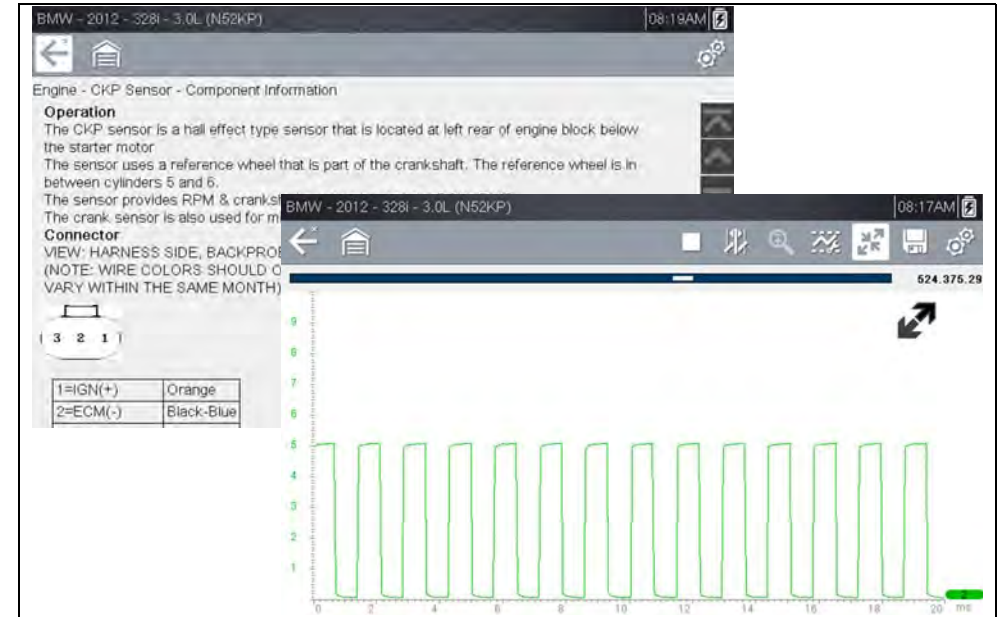

Figure 10-9 View Options
3. Tap on the Information Panel once to display the information panel in full screen view. Tap on it again to return to split view. The **Expand/Collapse** icon can also be used to toggle through split and full screen views (Figure 10-9).